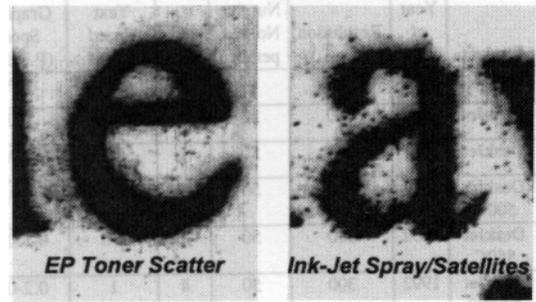

Figure 1.
**Artifacts** are the unwanted visible marks on the media which are not part of the digital information in the original. In EP engines these are called toner scatter and are normally visible as a “fog” around the printed character. In Ink-jet these are spray or satellites which are artifacts of the drop ejection process (see Figure 1).